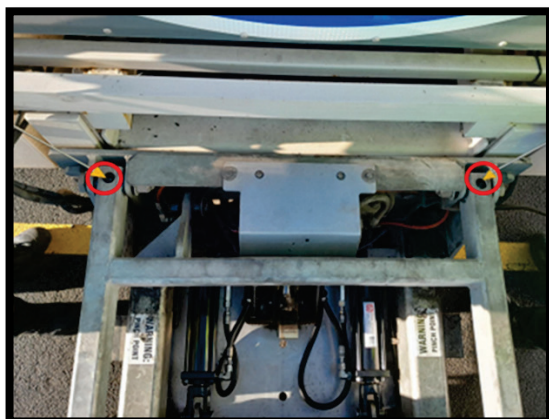

Fig.6. Lockout arms
- Has two grease points as per **Fig.6**